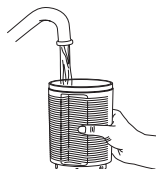

Fig. 11b
- Either flip the lid top over or remove lid by twisting counterclockwise to remove. (Fig. 11a, Fig. 11b)